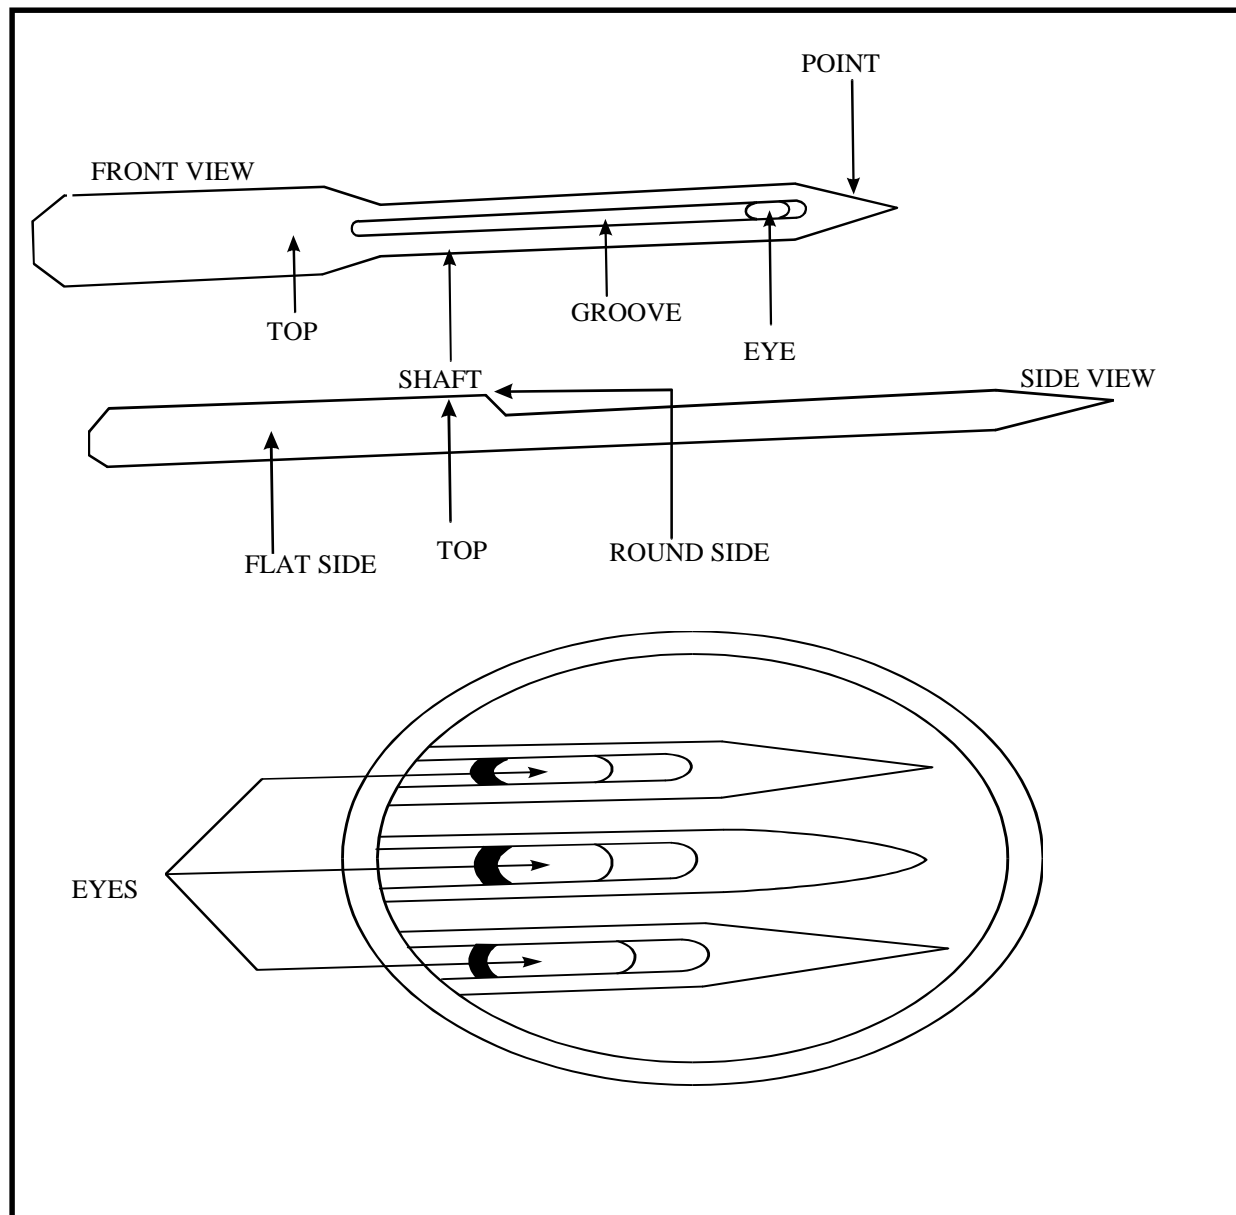

Figure 3-2. Sewing machine needles
a. Needles. Sewing machine needles (Figure 3-2) come in several types and sizes. The needles are classified by the type of shank, the type of point, and the length of the needle. Each type of sewing machine uses a different type of needle. Always use the correct type of needle, and replace bent or dull needles so that the machine operates properly. Needles come in numbered sizes. Needles with high numbers have bigger eyes and thicker shanks than needles with low numbers. The size needle to use is determined by the size thread needed to make the repair. Always match the size of the needle to the size of the thread so that the thread will pass easily through the eye.